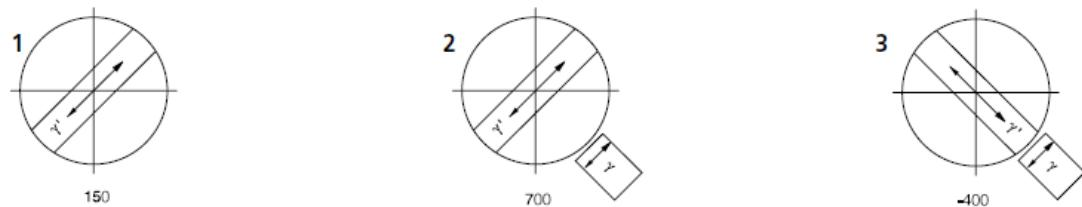
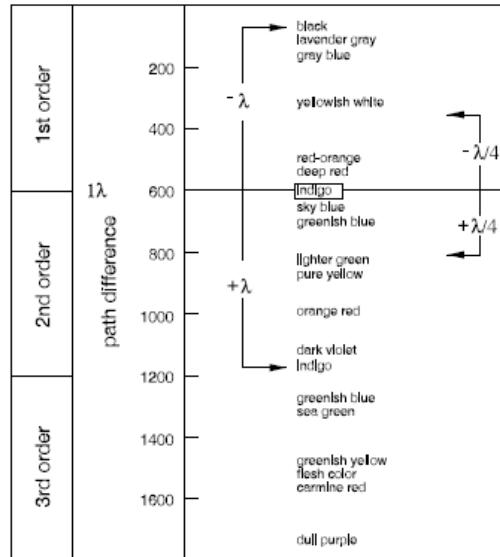

Fig. 4-7 Determining the direction of oscillation  $n_y$  using a synthetic fiber as an example
Fig. 4-8 Schematic diagram of the color charts according to Michel-Lévy
- Now turn the stage on by 45° so that the longitudinal axis of the fiber is oriented NE-SW (Fig. 4-8). The specimen will display the greatest brightness here (diagonal position). In this position the specimen may have any color.
The greater path difference occurs, if the direction of oscillation of the specimen with the absolutely or relatively highest refractive index ( $n_y$  or  $n_y'$ ) is parallel to the principal direction of oscillation of the compensator  $\lambda$ . The specimen will then appear, for instance, in greenish-blue (Fig. 4-7/2).
The smallest path difference occurs, if the direction of oscillation of the specimen with the absolutely or relatively lowest refractive index ( $n_\alpha$  or  $n_\alpha'$ ) is perpendicular to the direction of oscillation of the compensator  $\lambda$ . The specimen will then appear, for instance, in yellow (Fig. 4-7/3).
The grayish-white color appearing first in the bright position in the above example (Fig. 4-7/1) corresponds to a path difference of 150 nm according to the Michel-Lévy color chart (Fig. 4-8).